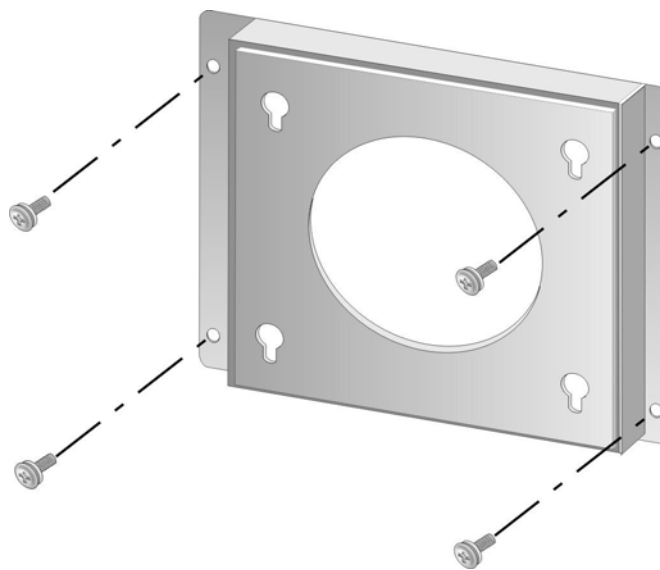

Figure 3-23: Wall-mounting Bracket
- Step 5:** Secure the mounting bracket to the wall by inserting the retention screws into the four pilot holes and tightening them (**Figure 3-23**).